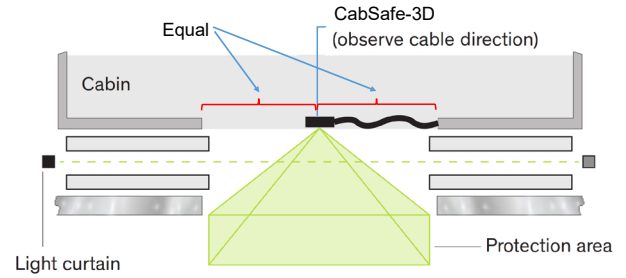
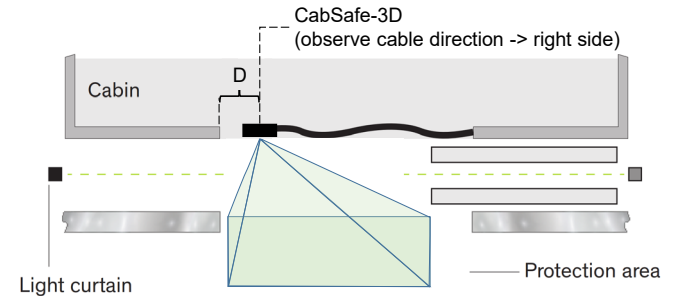
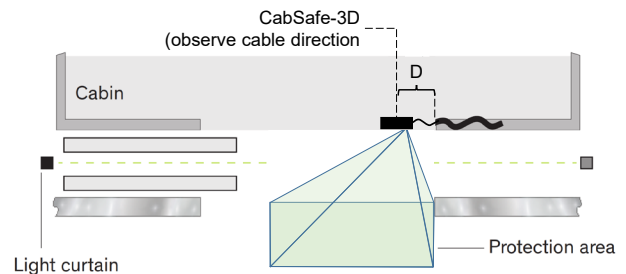

Figure 23: Mounting location and orientation - center opening door
Figure 24: Mounting location and orientation –sensor mounted on left side
Figure 25: Mounting location and orientation – sensor mounted on right side
- The CabSafe TDL (Tall Door Left) must be installed on the left side of the elevator door entrance when looking from the hallway to the cabin (Figure 24).
- The CabSafe TDR (Tall Door Right) must be installed on the right side of the elevator door entrance when looking from the hallway to the cabin (Figure 25).
A. Cable must exit right when looking into the elevator cabin (Figure 23, Figure 24, Figure 25)
The sensor located near the slam post (strike jamb) and a minimum distance from the slam post (strike jamb) must be maintained; see Figure 24 and Figure 25 for details.